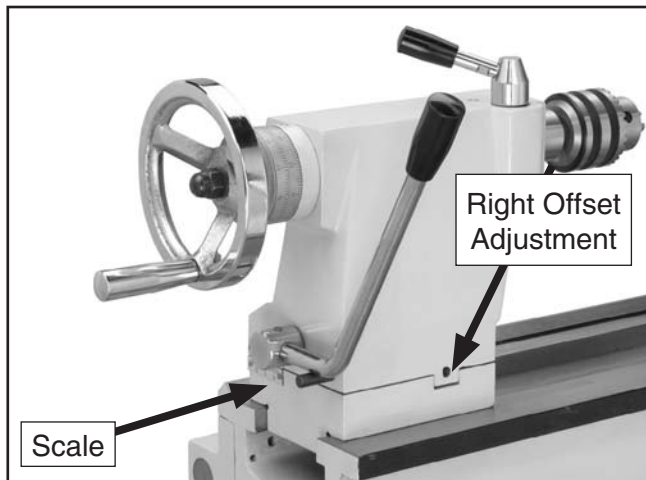

Figure 19. Right offset adjustment.
2. Alternately loosen and tighten the left and right offset adjustment screws until the desired offset is indicated on the scale (see **Figures 19 & 20**).